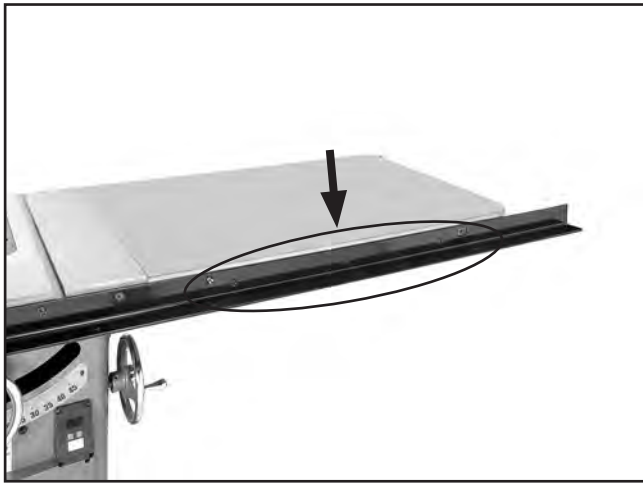
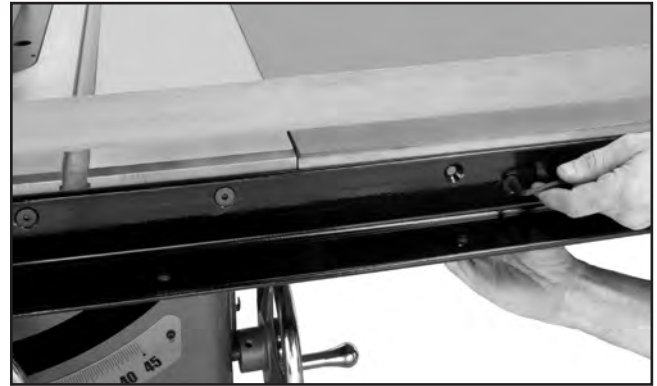

Figure 13. Front rail/table fastener locations.
Figure 15. Aligning main extension table.
5. While an assistant holds the extension table, fasten the 91³/₈" front rail to the extension table with three flat head screws, flat washers and hex nuts (**Figure 13**). Finger tighten for now.
7. Align the table and extension table with a straightedge (**Figure 15**), then tighten the fasteners in **Figure 13** with a 5mm hex wrench and 12mm wrench.